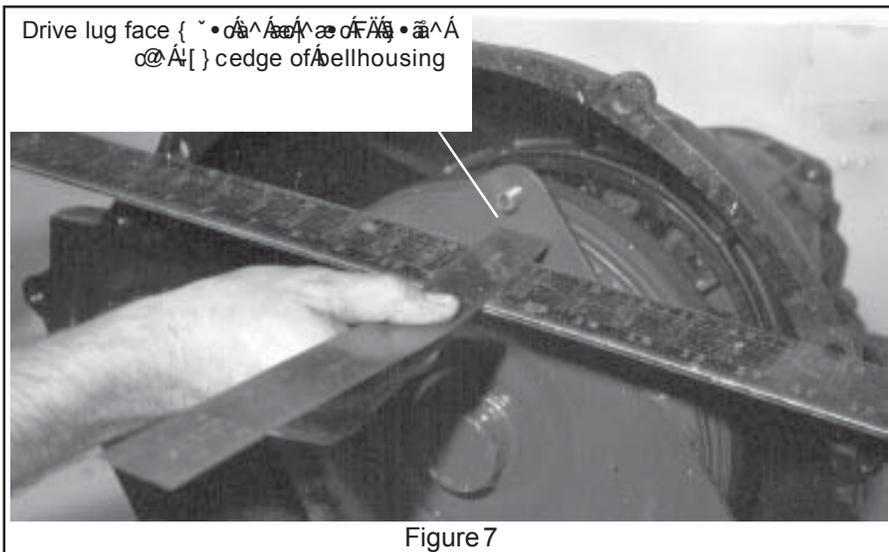

Figure 7
**STEP 7.** Remove dipstick and tube assembly. Remove torque converter, cover pan bolts and remove converter cover pan (see Fig. 6). Remove flexplate to converter bolts (see Fig. 7). Use starter motor to "bump" each bolt into position.
converter to engage input shaft, stator shaft and oil pump rotors. Place a straightedge across the face of the transmission bellhousing. Measure the distance from the face of the bellhousing to the base of the torque converter drive stud. (See Fig. 7) The base of the stud must be at least **one inch** inside the bellhousing. A measurement of less than 13/16" (4 cyl-351 V-8) or 1-1/8" (360-Larger V-8) indicates the torque converter is not fully engaged in the transmission, except torque converters specially built for motor plate applications. (Subtract the thickness of your motor plate from the 13/16" or 1-1/8" dimension for proper measurement.) Continue to rotate and turn the converter to obtain full engagement. If you install the transmission without full converter engagement, you will damage the oil pump and/or converter.